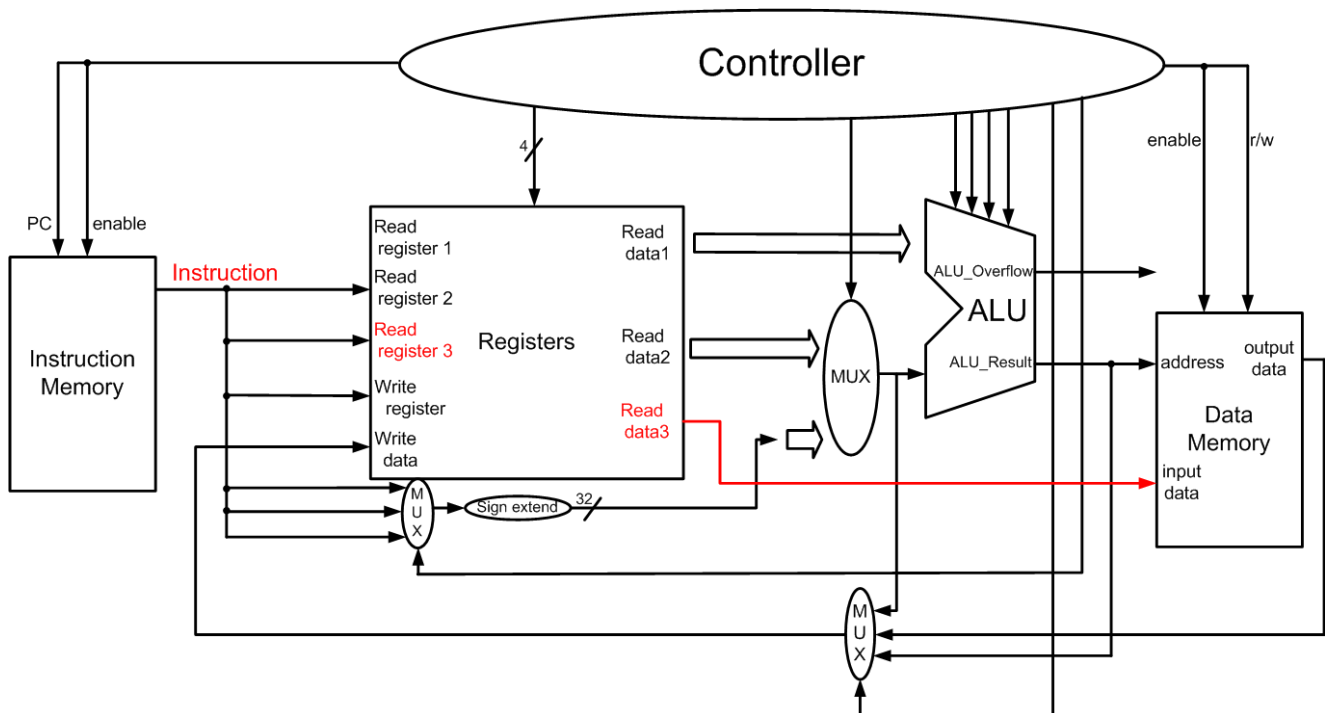

Fig. 3 Block diagram of multi-cycle (SMILE) CPU
2. (20 points) Add in a 128x8bit byte addressing data memory into the CPU system. And modify your register file become three read ports as show in Fig.3. Please load the mins.prog(you have to convert it to machine code first by yourself) in the next page into the instruction memory and modified the CPU system so that it could execute the 17 instructions as show in the table at the beginning.